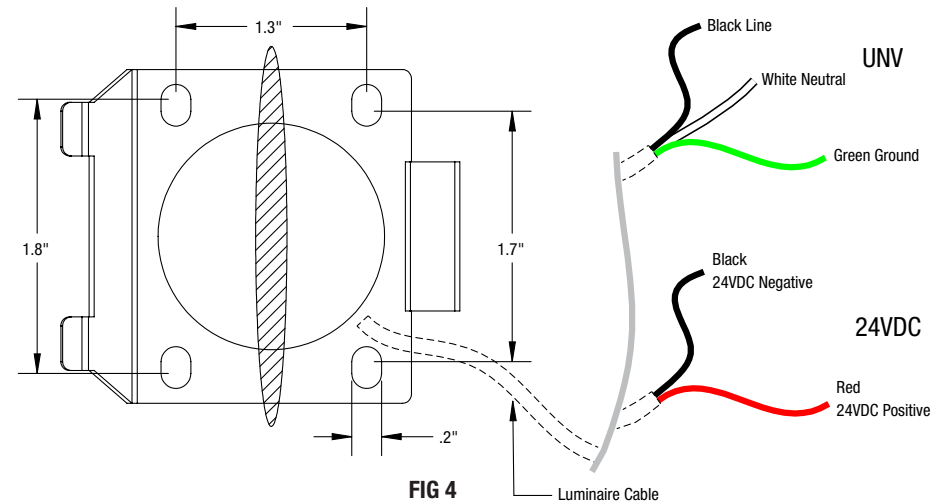

FIG 4
4. Make all necessary electrical connections. Use waterproof wire nuts where applicable. **Fig 4.**